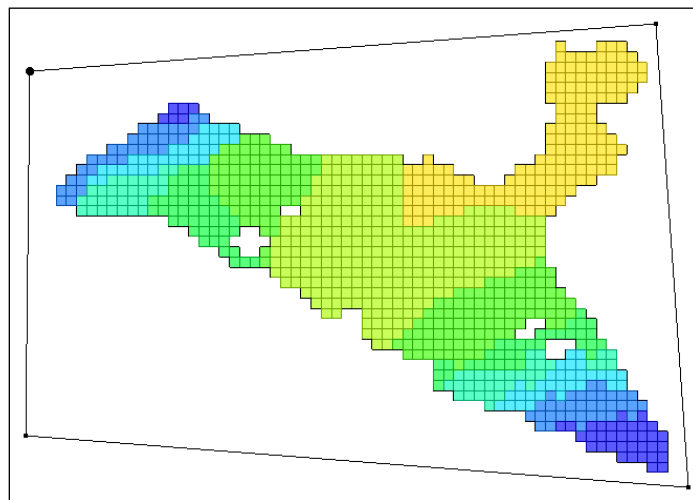

Figure 3 Creating a polygon that encompasses the model grid
3. Using the **Create Arc**  tool, create a quadrilateral arc surrounding the grid. End the arc on the beginning point to form a closed polygon (see Figure 3).